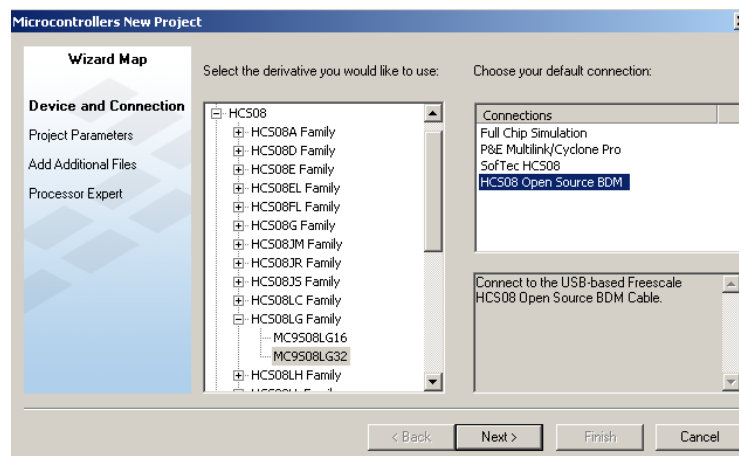

Figure 6. Microcontroller New Project window—derivative list
4. In Figure 6 select the **MC9S08LG32** from the derivative list. This sets up the project to load in the proper headers and the initialization files needed by the compiler. (If using another processor, select that one instead). Highlight the **HCS08 Open Source BDM** for the debugger connection.